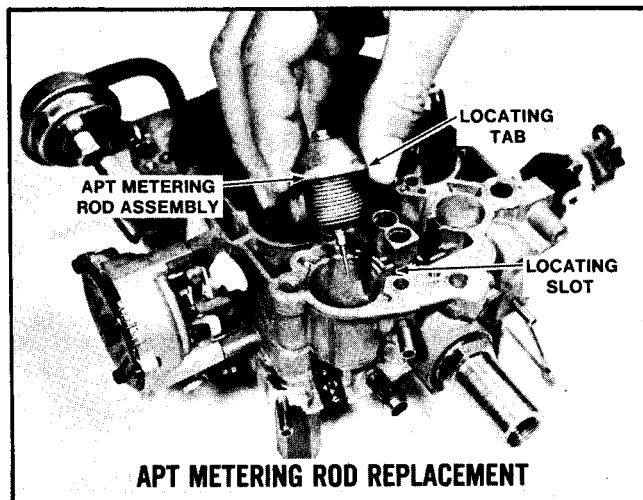

Figure 66 APT Metering Rod Replacement
7. On "modified" models that use an APT metering rod assembly with aneroid or filler spool, install metering rod assembly into float bowl, carefully aligning metering rod tip with hole in fixed jet. Tab on cover goes in slot in float bowl closest to the fuel inlet nut (Figure 66).
h. Carefully install cover and metering rod assembly onto float bowl aligning tab on cover assembly with slot in float bowl closest to the fuel inlet nut, (Figure 66).